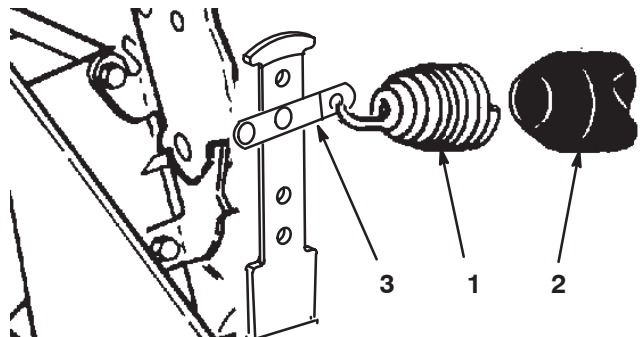

Figure 15
6. On the rear counterbalance arms, install the vinyl cover over the spring before hooking the other end of the spring into the spring shackle in the second hole from the top (Fig. 15).